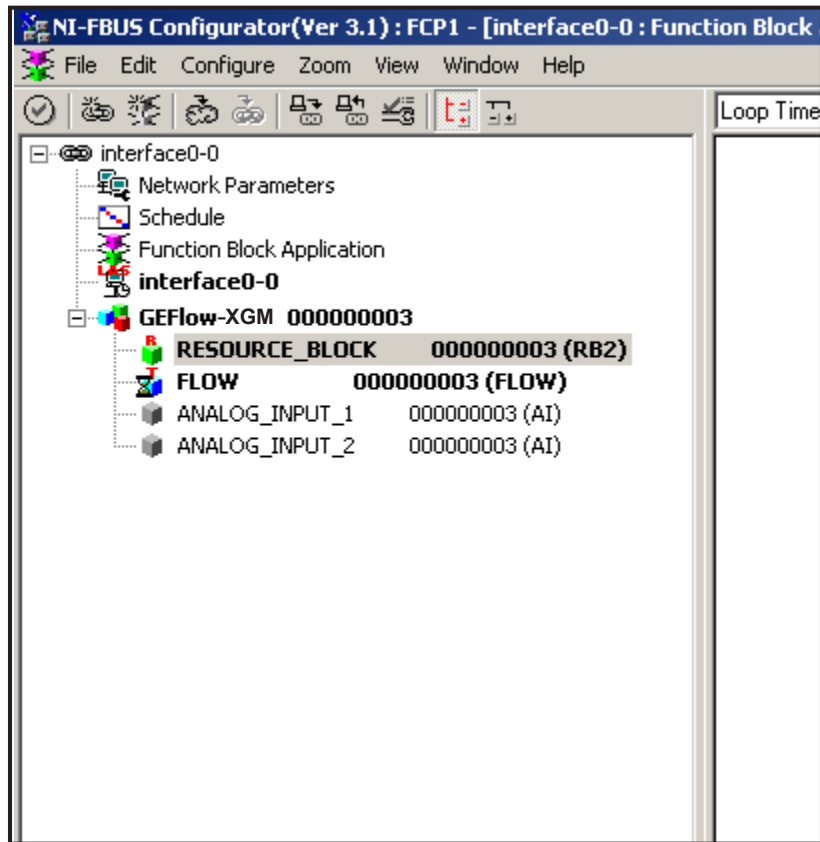

Figure 56: Configuration Utility Setup Example
Figure 56 shows the Configuration Utility with a flowmeter on the network (GE Flow-XGM).
1. Double click on the AI block for which you wish to set the units (ANALOG_INPUT_1 or ANALOG_INPUT_2 in the tree under GEFlow-XGM; see Figure 56 on page 142).
1. Double click on the FLOW transducer block (in the tree under GEFlow-XGM; see Figure 56 on page 142).